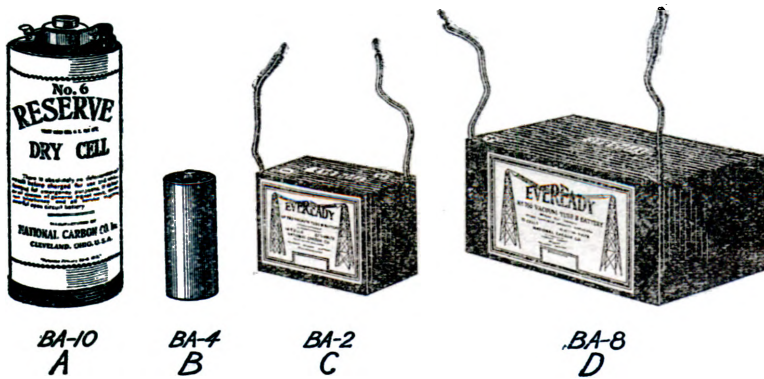

Fig. 3, A-B-C-D.—Types of dry cells and batteries used in signal communications.
*Primary batteries.*—A primary battery consists of two or more units called *cells*. Each cell produces electricity by certain chemical actions which take place inside the cell. There are many types of primary cells. Those which contain a liquid which is easily spilled, or those in which the liquids are placed in glass containers are unsuitable for use where they are to be transported with radio sets accompanying troops in the field. The type of primary cell most practical for such use is known as the dry cell. The BA-4 cell is an example of this type of dry cell. (See Fig. 1, A, and Fig. 3, B.)
*BA-10 Dry Cell.*—The BA-10 reserve dry cell is similar to the BA-4 cell. (See Fig. 1, B and Fig. 3, A.) It consists of a cylindrical zinc container in the center of which a hollow carbon rod is placed. The space between the carbon rod and the inner wall of the zinc case is filled with certain chemicals and absorbent materials. The top of the cell is sealed with an asphalt insulating compound. Two spring clip terminals are provided on the top of the cell, one being attached to the zinc case itself and the other to the carbon rod. A paraffin coated cork closes the opening in the top of the carbon rod.
*BA-2 Battery.*—The type BA-2 battery shown in Fig. 3, C, consists of 15 dry cells, each cell being similar to the BA-4 type cell, but smaller. The cells are connected together in series and sealed in a cardboard container with sealing wax. Two wire terminals are brought out through the sealing compound at the top of the batteries. One of the wire terminals is covered with black insulation to indicate the negative pole, while the other wire is covered with red insulation to indicate the positive pole. It is important to remember these colors.
*BA-8 Battery.*—The type BA-8 battery (Fig. 3, B), is similar to the type BA-2 battery. The two batteries differ only in the size of the cells, those of the BA-8 battery being about twice the diameter of the cells of the BA-2.